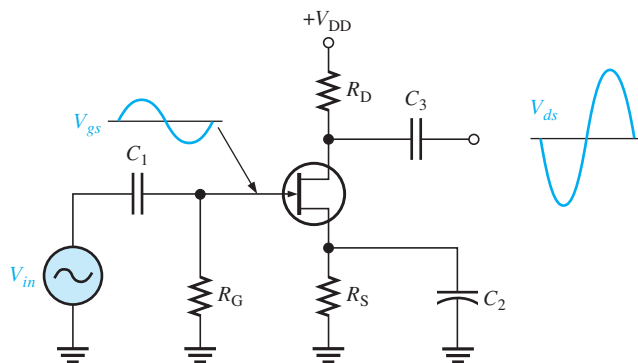

FIGURE 4-39 JFET common-source amplifier.
JFET Figure 4-39 shows a **common-source (CS)** amplifier with a self-biased n -channel JFET. An ac source is capacitively coupled to the gate. The resistor, R_G , serves two purposes: (a) It keeps the gate at approximately 0 V dc (because I_{GSS} is extremely small), and (b) its large value (usually several megohms) prevents loading of the ac signal source. The bias voltage is created by the drop across R_S . The bypass capacitor, C_2 , keeps the source of the FET effectively at ac ground.
The drain current swings above and below its Q-point value in phase with the gate-to-source voltage. The drain-to-source voltage swings above and below its Q-point value 180° out of phase with the gate-to-source voltage, as illustrated in Figure 4-39.